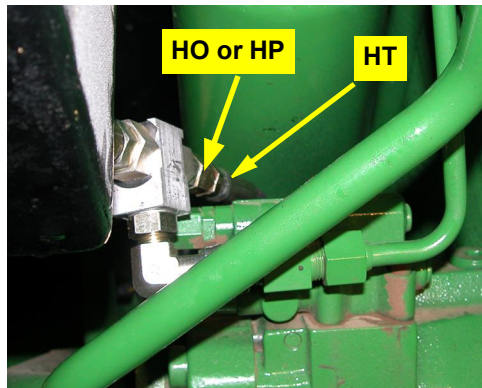

Figure 8c: Load sense hose connected to LS shuttle
- d. Connect the load sense hose **HT** to the load sense shuttle's straight adapter **HO** or elbow adaptor **HP** if fitted (Figure 8c).